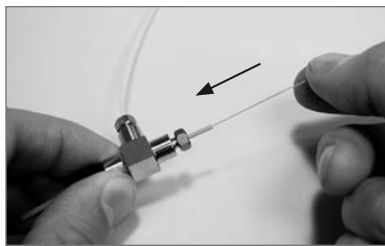

Figure 2 Feed the emitter, distal-end first, through the PEEK™ nozzle.
- 1) Loosen the nut securing the SealTight™ fitting by one-half to two turns and feed a PicoFrit® or TaperTip™ through the PEEK™ nozzle, distal end first, until it comes through the SealTight sleeve (Figure 2).